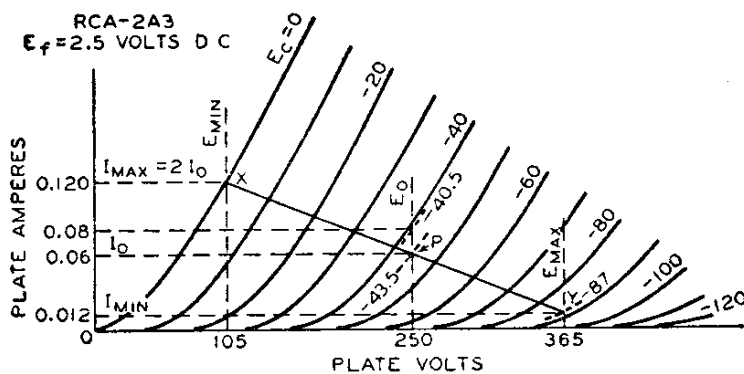

Fig. 20
Calculation of the **power output of a triode** used as a class A amplifier with either an output transformer or a choke having low dc resistance can be made without serious error from the plate family of curves by assuming a resistance load. The proper plate current, grid bias, optimum load resistance, and the per cent second-harmonic distortion can also be determined. The calculations are made graphically and are illustrated in Fig. 20 for given conditions. The procedure is as follows: (1) Locate the zero-signal bias point P by determining the zero-signal bias E_{c0} from the formula:
Example: Determine the load resistance, power output, and distortion of a triode having an amplification factor of 4.2, a plate-dissipation rating of 15 watts, and plate characteristics curves as shown in Fig. 20. The tube is to be operated at 250 volts on the plate.